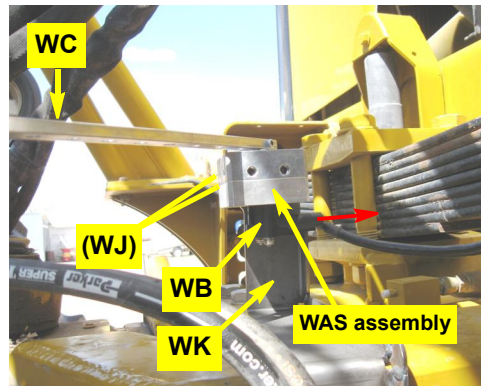

Figure 2c: Installed WAS assembly
c. Using hardware **WJ** (not visible), mount the WAS assembly from step 1 on the rear face of bracket **WK**. Mount the WAS assembly with its arm **WC** on top and **WB**'s wire connector pointing inward (Figure 2c - you will install the WAS cable later).